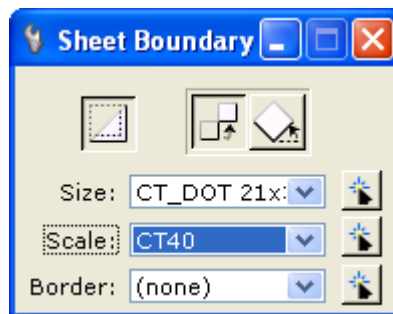

Figure 10-7 Sheet Boundary Dialog Box
- E. Click the **Profile Controls** tab. The Profile Preference should be set to **Highway Profile Bdr Format**. In the Surface section, toggle on the Existing surface and the design surface. Figure 10-7 shows the settings in the Profile Control tab of the Plan and Profile Generator.